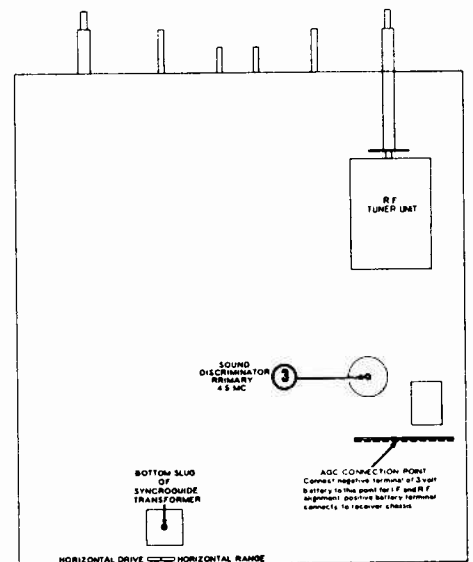

FIG. 11
3. Connect a 3 volt battery to the receiver AGC system so that negative terminal of battery connects to the AGC line and positive terminal of battery connects to receiver chassis. See Fig. 11 for convenient point of connection.
2. Connect a 3 volt battery to the receiver AGC system so that negative terminal of battery connects to AGC line and positive terminal of battery connects to receiver chassis. (See Fig. 11 for convenient point of connection.)